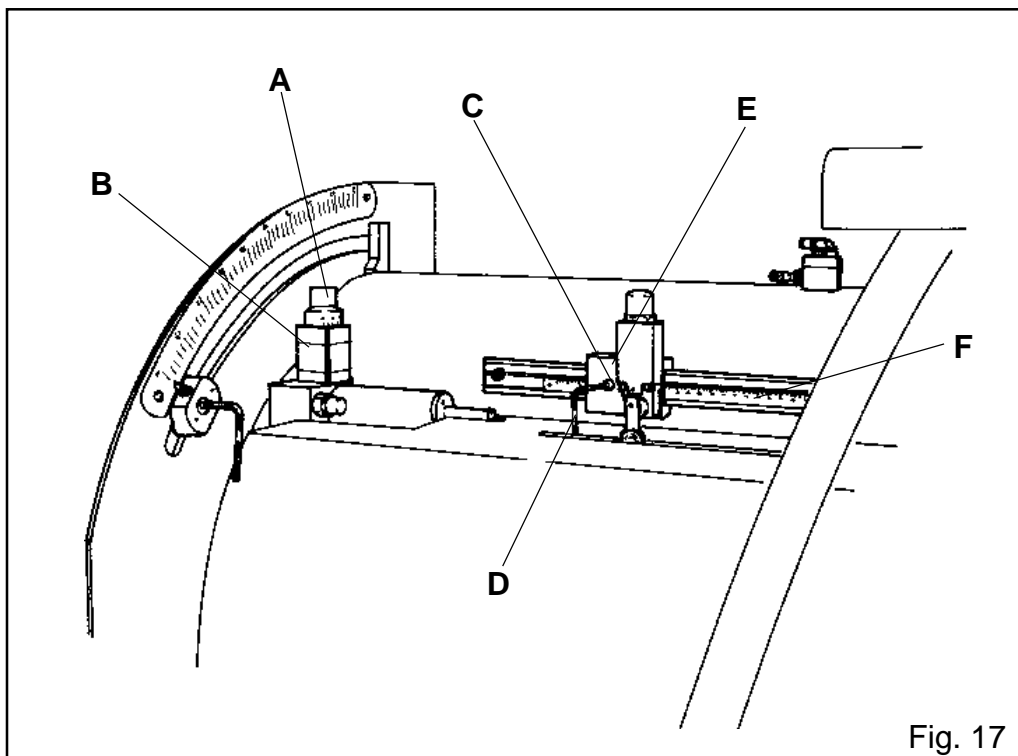

Fig. 17
- Turn knob A (Fig.17) situated on valve B (Fig.17) to clockwise direction to reduce the speed or to anticlockwise direction to increase blade's speed.
- Loosen screw C (Fig.17) by means of spanner D (Fig.17), blocking the micron support E (Fig.17).
- Move manually the micron E (Fig.17) to the right in order to increase the cutting capacity, or to the left in order to decrease the cutting capacity. You can read the measure on the metric ruler F (Fig.17).